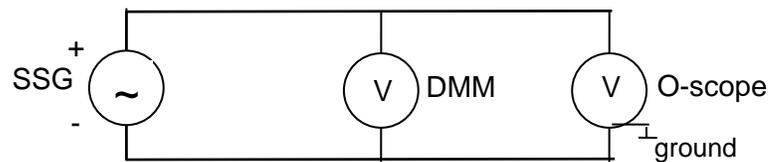

FIGURE 3
a) Locate the Sine-Square Wave Generator (SSG) but do not turn it on. Connect the OUTPUT terminals of the SSG to the DMM and the VOLTAGE input terminals of the O-scope as shown in Fig. 3. Make sure that the negative side of the SSG is connected to the ground terminal of the O-scope. Set the SINE/SQUARE selector switch on the SSG to SINE. Select the highest possible LEVEL range. Turn the OUTPUT VOLTAGE all the way down to zero. Using the FREQUENCY MULTIPLIER (or FREQUENCY RANGE selector) and the FREQUENCY dial, set the frequency to 100 Hz. Select AC for both the DMM and the O-scope.